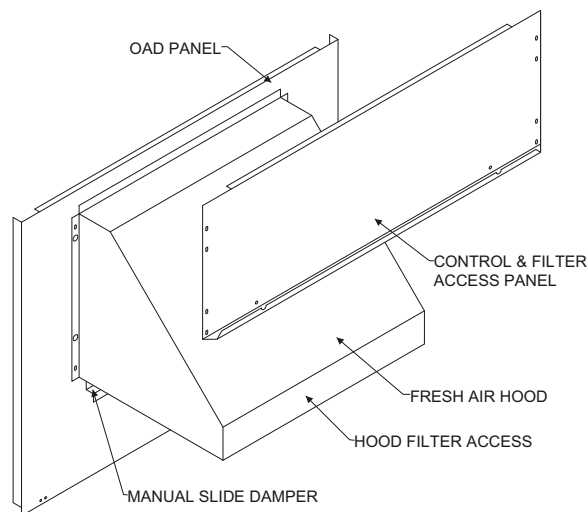

FIGURE 1
3. Assemble fresh air hood. See Figure 1.